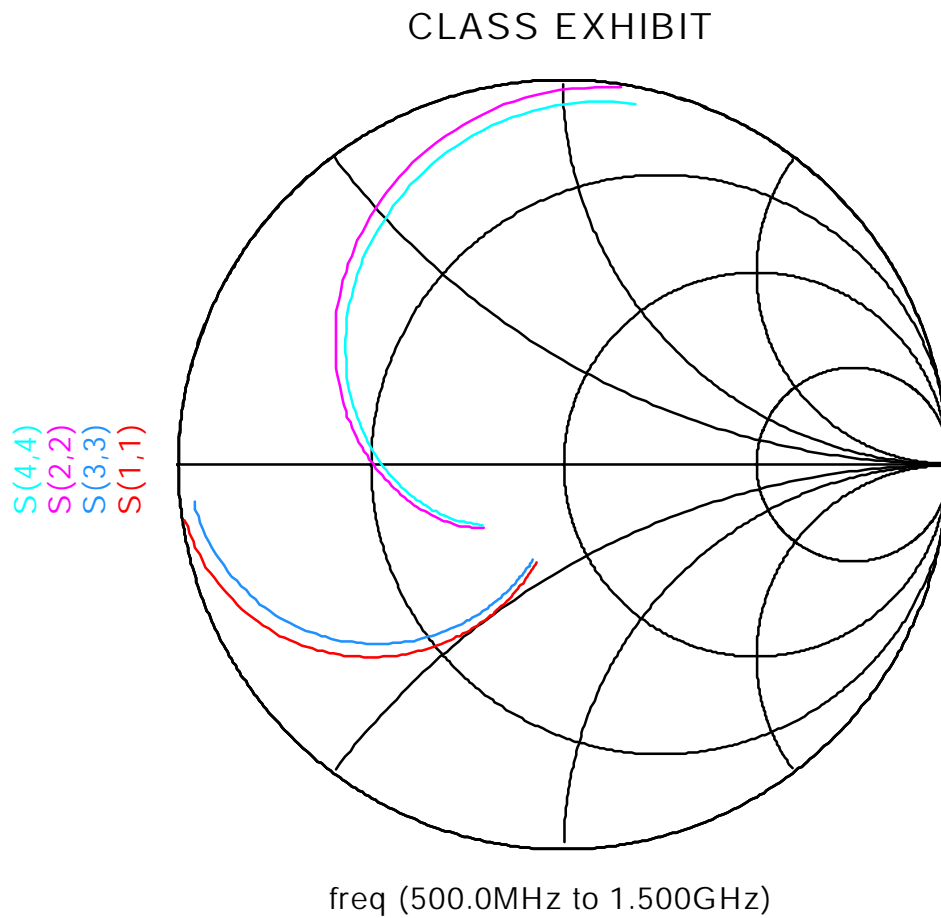
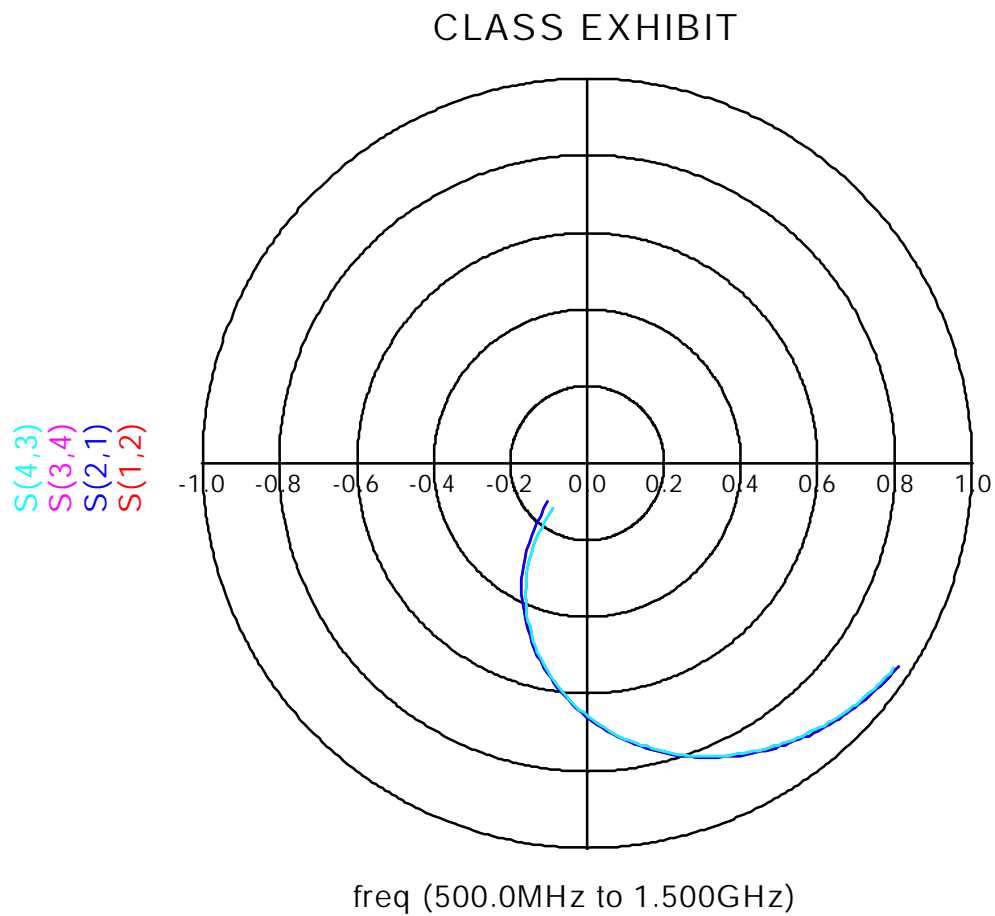

Figure 4. Frequency Response For  $\Gamma_s$  ( $S_{22}$ ,  $S_{44}$ ) And  $S_{11}$ ,  $S_{33}$ .
Figure 5. Frequency Response For  $S_{12}$ ,  $S_{34}$  And  $S_{21}$ ,  $S_{42}$ .
3. Simulate  $S_{11}$ ,  $S_{21}$ ,  $S_{12}$  and  $S_{22}$  for each sub-circuit to obtain the results shown in Figure 4 and Figure 5. Note that the S-parameters for the second sub-circuit will be named  $S_{33}$ ,  $S_{43}$ ,  $S_{34}$  and  $S_{44}$ .